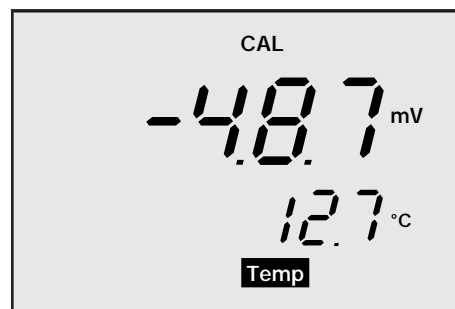

Figure 9
2. Press CAL to go into the calibration mode. The primary display shows the measured pH value, and the secondary display shows the temperature. See Figure 9.